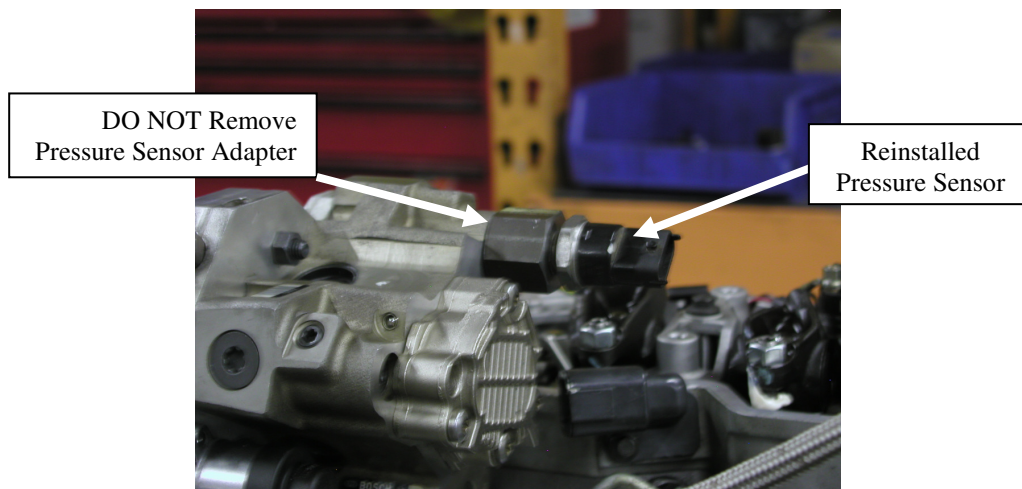

Figure 6: Pressure Sensor Reinstalled in Pump Fitting
14. The new pump comes with a fitting already installed on the rear to accept the pressure sensor. Place a small amount of grease (Polylube, Transjel or equivalent) on the sealing surface of the pressure sensor. Thread the sensor into this location, (Figure 6). Lightly tighten the sensor with a 1-1/16" wrench. Then, using a deep socket and a backing wrench, torque the pressure sensor to **80 ft-lbs. If backing wrench is not used, it is possible to strip the threads out of the CP3 pump. ATS is not responsible for replacing the pump if the threads are damaged.**